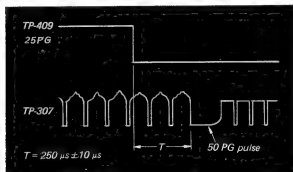

Fig. 7-13. Position of 50 PG pulse
3. Adjust R377 so that the phase between the leading edge of 50 PG and leading edge of the 25 PG pulse is 250 μ sec \pm 10 μ sec. See Fig. 7-13.